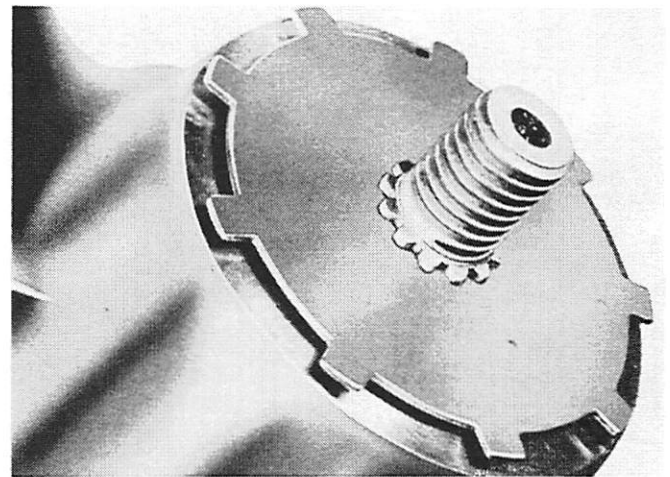

Figure 17. Splines of Tab Lockwasher over Splines of Propeller Shaft
3. Install propeller, 1/32" thick backing washer, tab lockwasher (making sure that it fits correctly over splines, as shown in Figure 17) and install propeller nut in this order.